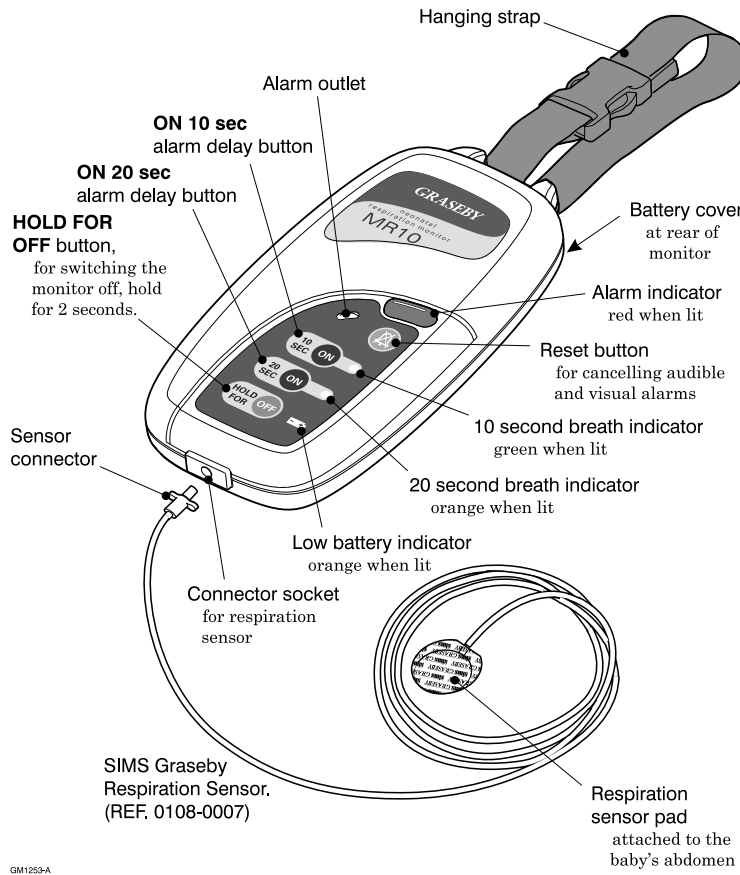

Figure 1-2 MR10 new case design (for serial numbers from 80,000)
- the new case design covers monitors with serial numbers from 80,000, see Figure 1-2.